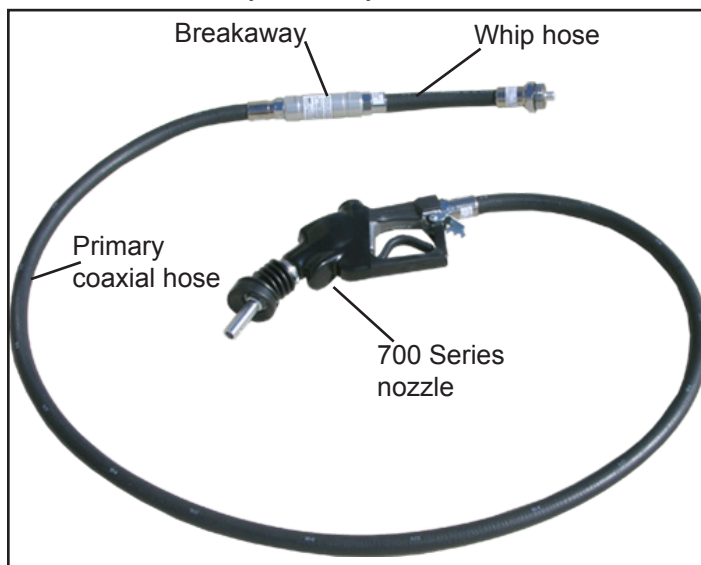

Figure 1: Break-Away Assembly
6. Tighten the whip hose (Figure 1) onto the breakaway to 35 foot pounds.